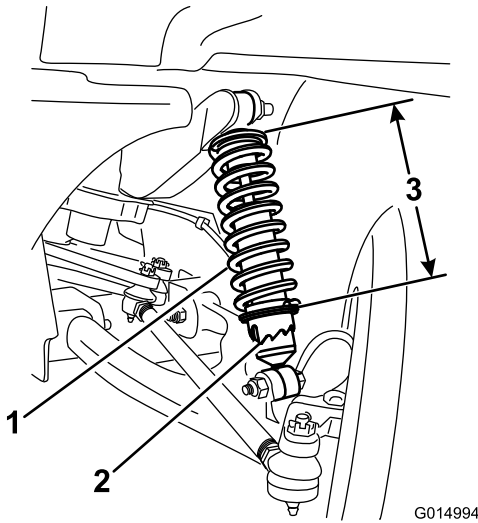

Figure 31
- Using tool TORO6010, rotate the collar on the shock absorber to change the length of the spring (Figure 31).